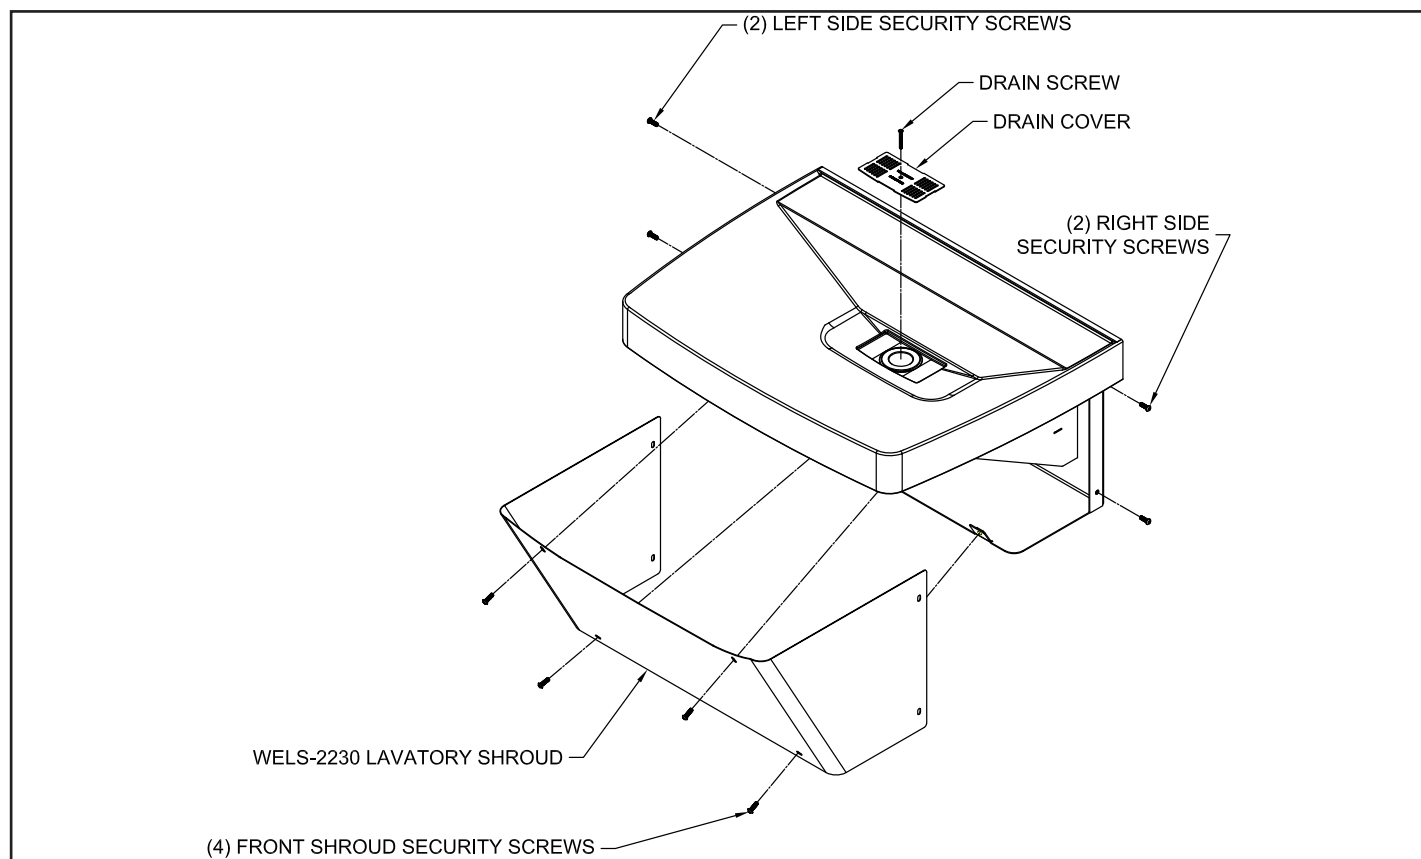

FIG. 3- MOUNT DRAIN COVER AND REPLACE SHROUD
1. Install the Drain Cover into the Lavatory trench drain using the included Drain Screw (SEE FIG. 3).
3. Once all plumbing has been completed and adequately tested, replace the Lavatory Shroud using the Security Screws removed in Step 1 (SEE FIG. 3). For best fit, finger-tighten the Side Screws before finger-tightening the Front Screws; once Front Screws are in place, fully-tighten the Sides.